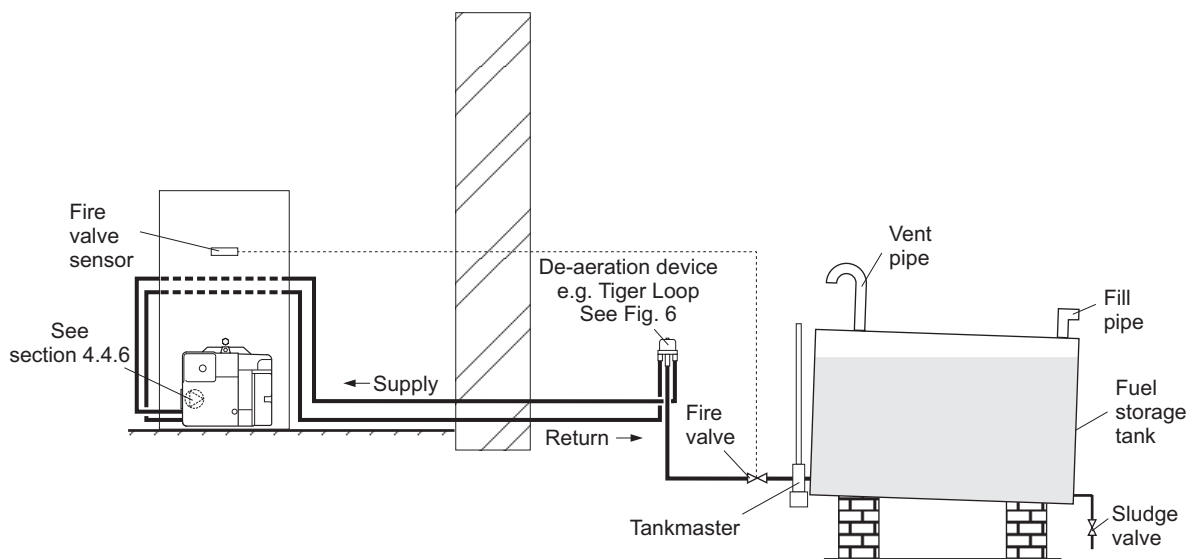

Fig. 5 - De-aeration device system
4.4.5 Tiger Loop system - (See Figs. 5 and 6)
- 2 The de-aerator is connected close to the boiler as a two pipe system (omitting the non-return valve) as shown in Fig. 5. Refer to the manufacturers instructions supplied with the de-aerator. The de-aerator **must** be mounted vertically.